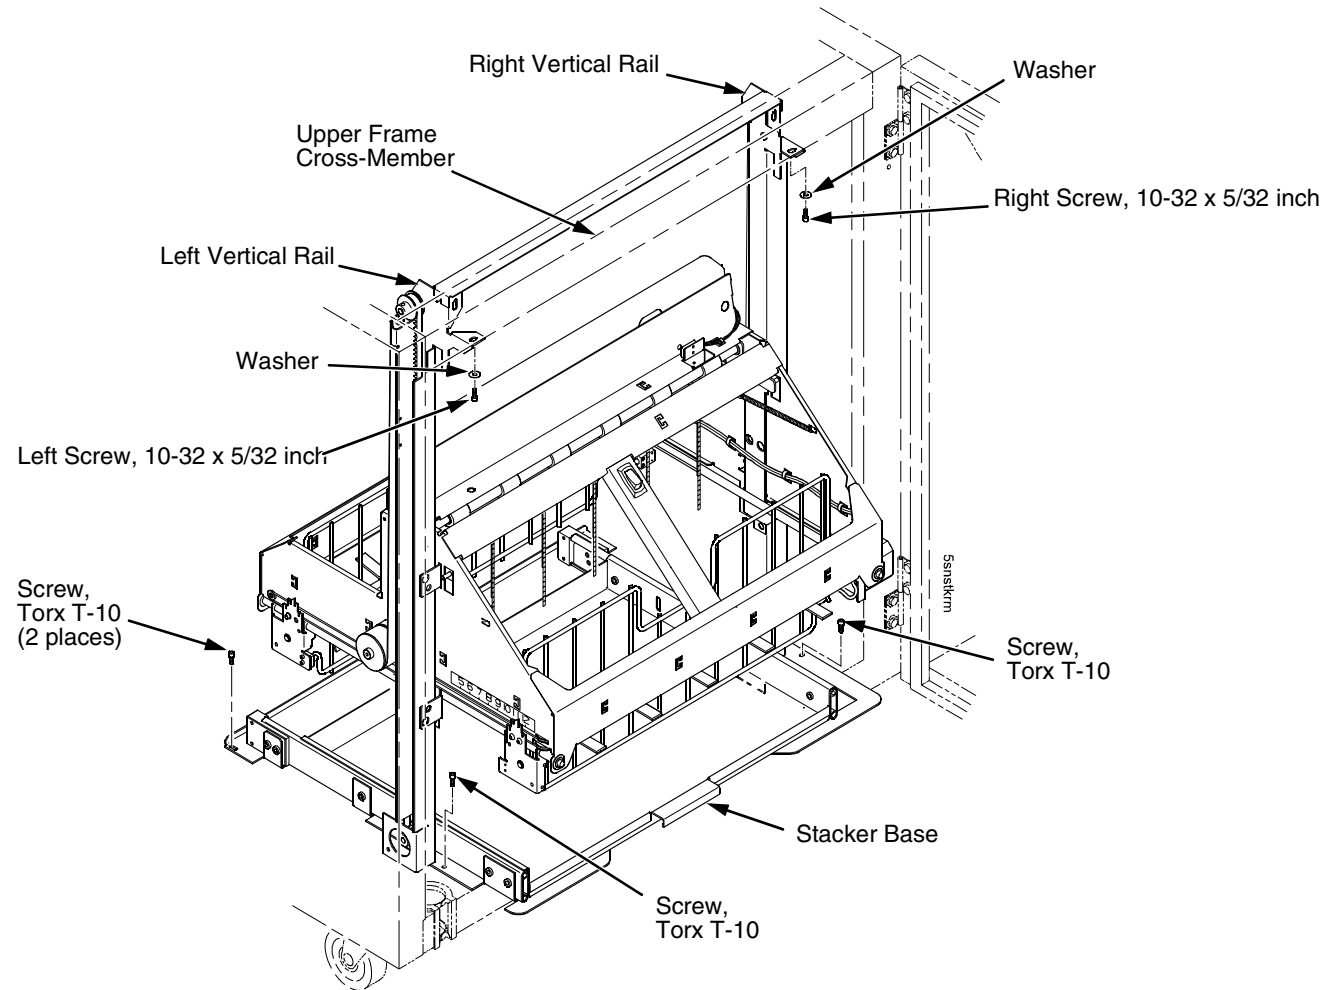

Figure 66. This figure shows which screws to remove to prepare the stacker for removal from the cabinet.
8. Remove the two 10-32 x 5/32 inch buttonhead screws and washers securing the vertical rails to the upper frame cross-member at the rear of the cabinet. (Figure 66.)
9. Remove the two Torx T-10 screws securing the stacker base to the cabinet floor. (Figure 66.)
10. Remove the two Torx T-10 screws that secure the rail bracket to the cabinet floor. (Figure 66.)